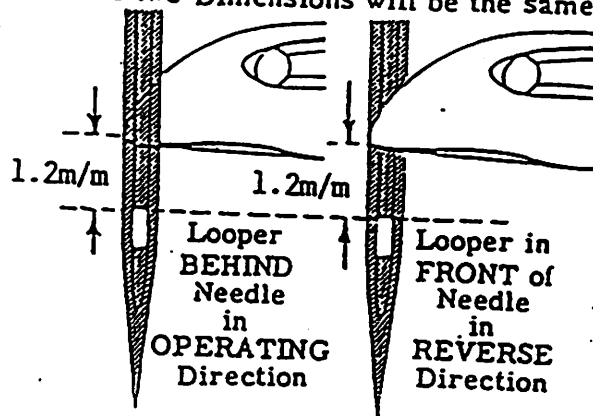

Fig. 5
8) Synchronizing needle and looper (Fig. 5)